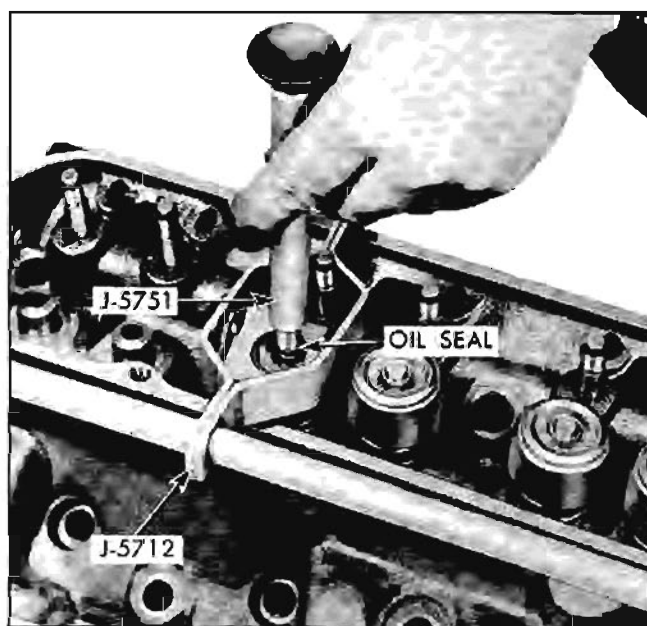

Fig. 6-37 Installing Valve Stem Shield
1. Install valves, valve springs, valve stem shields, valve spring retainer cups, valve stem seals and retainer cup locks using suitable spring compressor. The valve stem seals must be installed in the second groove (from end of stem). Valve Stem Seal Installer and Tester J-5751 can be used to install this seal (Fig. 6-37).